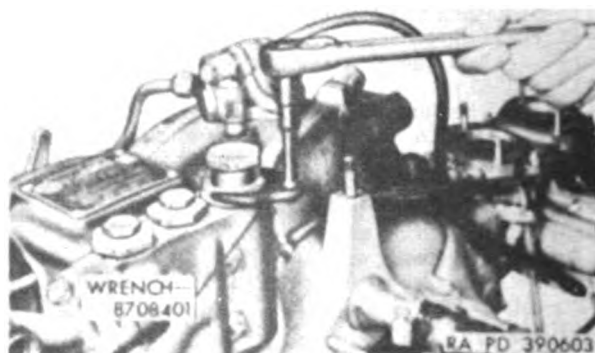

Figure 99. Removing oil pressure control valve assembly.
a. *Remove Oil Pressure Control Valve Assembly.* Cut locking wire and remove oil pressure control valve assembly from oil control housing using wrench 8708401 (fig. 99). Remove and discard gasket.